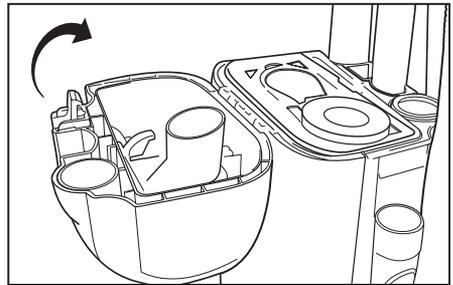

Fig. 5
- Replace the cover and press the lid release button to secure it into place (Fig. 5).